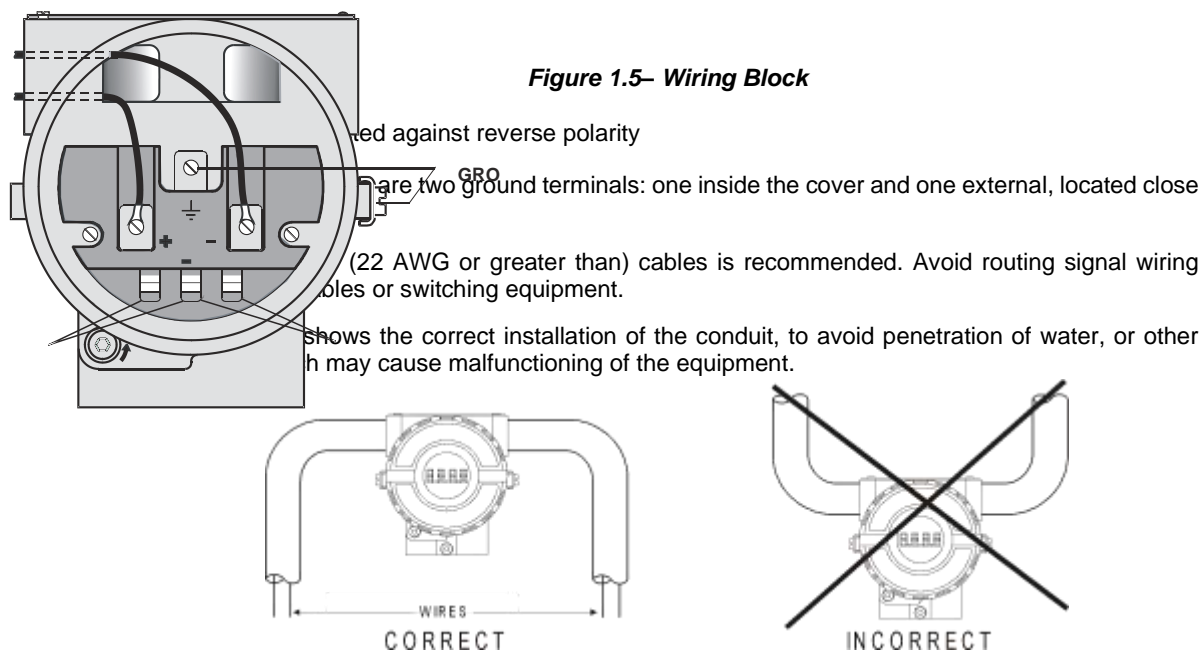

Figure 1.6 - Conduit Installation
**Test and Communication terminals** allow, respectively, to measure the current in the 4 - 20 mA loop, without opening it, and to communicate with the transmitter. To measure it, connect a multimeter in the mA scale in the "-" and "+" terminals, and to communicate, use a **HART** configurator in the "COMM" and "-" terminals. The wiring block has screws on which fork or ring-type terminals can be fastened. See Figure 1.6.